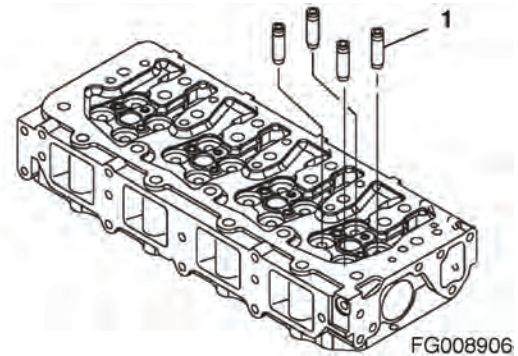

Figure 146
2. Immediately after removing the valve guides from the freezer, insert the valve guides (1, Figure 146) in their proper positions.